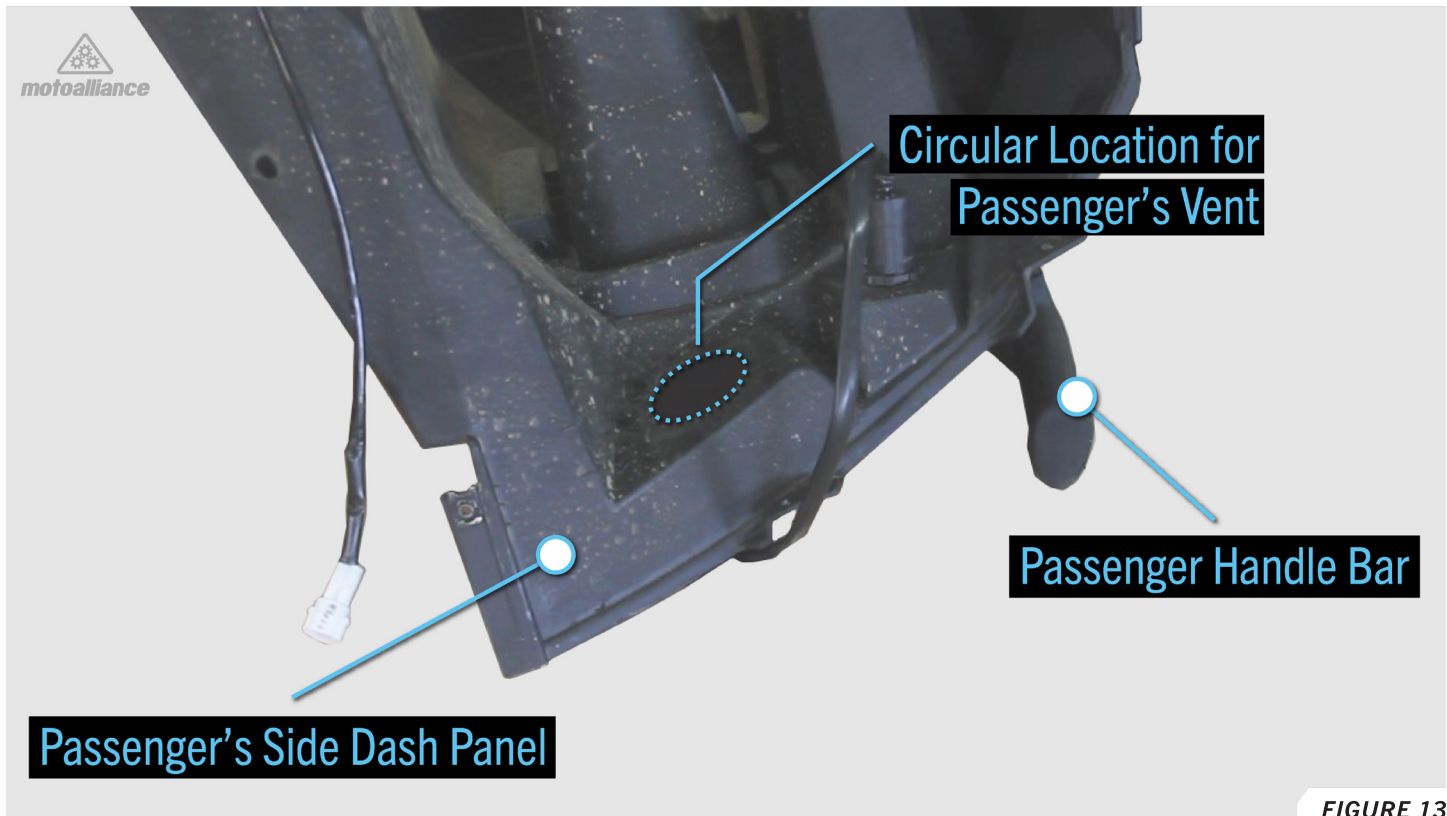

FIGURE 13
29. Take the passenger side dash panel and find the circular location for the passenger vent. Mark the center of the circle. **FIGURE 13**
30. Take the 2" hole saw and drill through the passenger side dash panel to make a hole for the passenger's side 2" vent. Clean up any burrs from around the hole, then insert the driver's vent into the hole. **FIGURE 13**